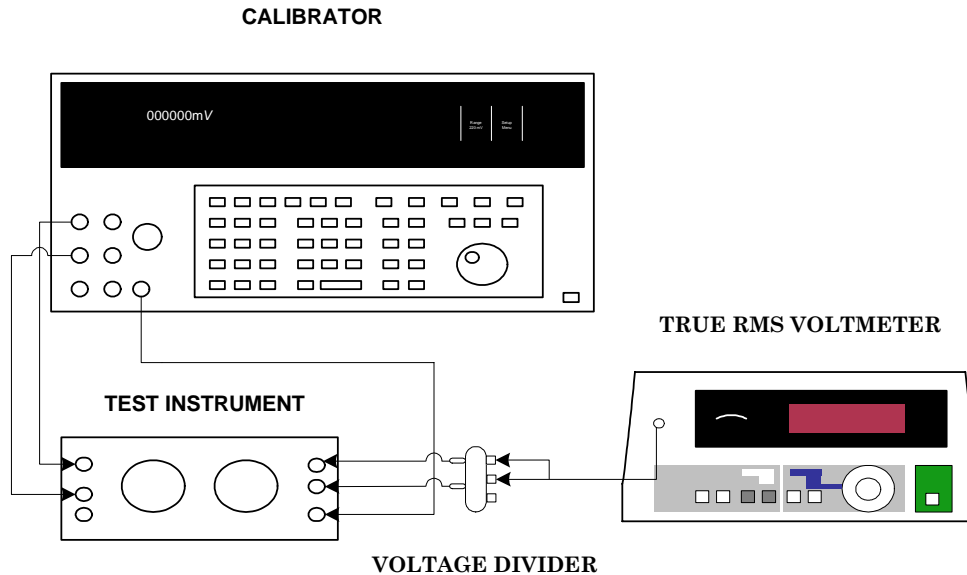

Figure 2. Frequency response.
- (1) Connect equipment as shown in figure 2.